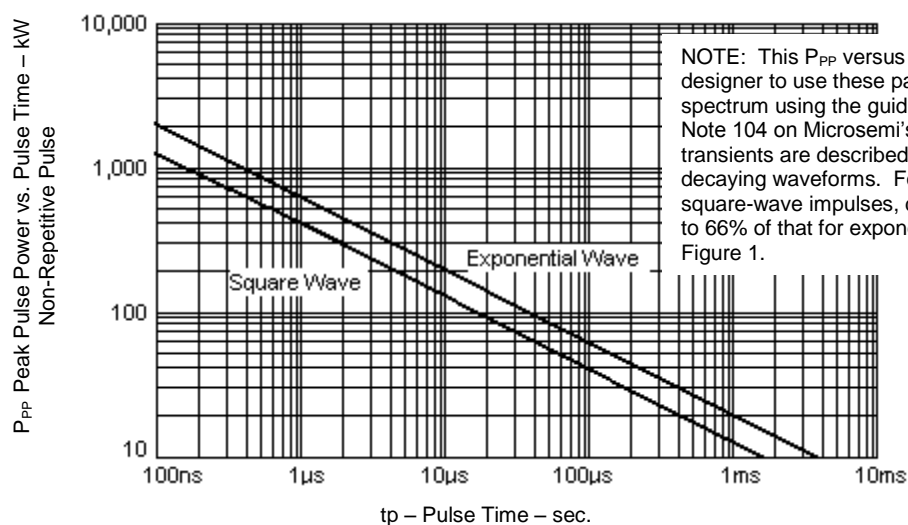

FIGURE 1
NOTE: The 1MHz damped oscillatory waveform (3) has an effective pulse width of 4 μ s. Equivalent peak pulse power at each of the pulse widths represented in RTCA/DO-160E for waveforms 3, 4 and 5A (above) have been determined referencing Figure 1 herein as well as Application Notes 104 and 120 (found on Microsemi's website) and are listed below.